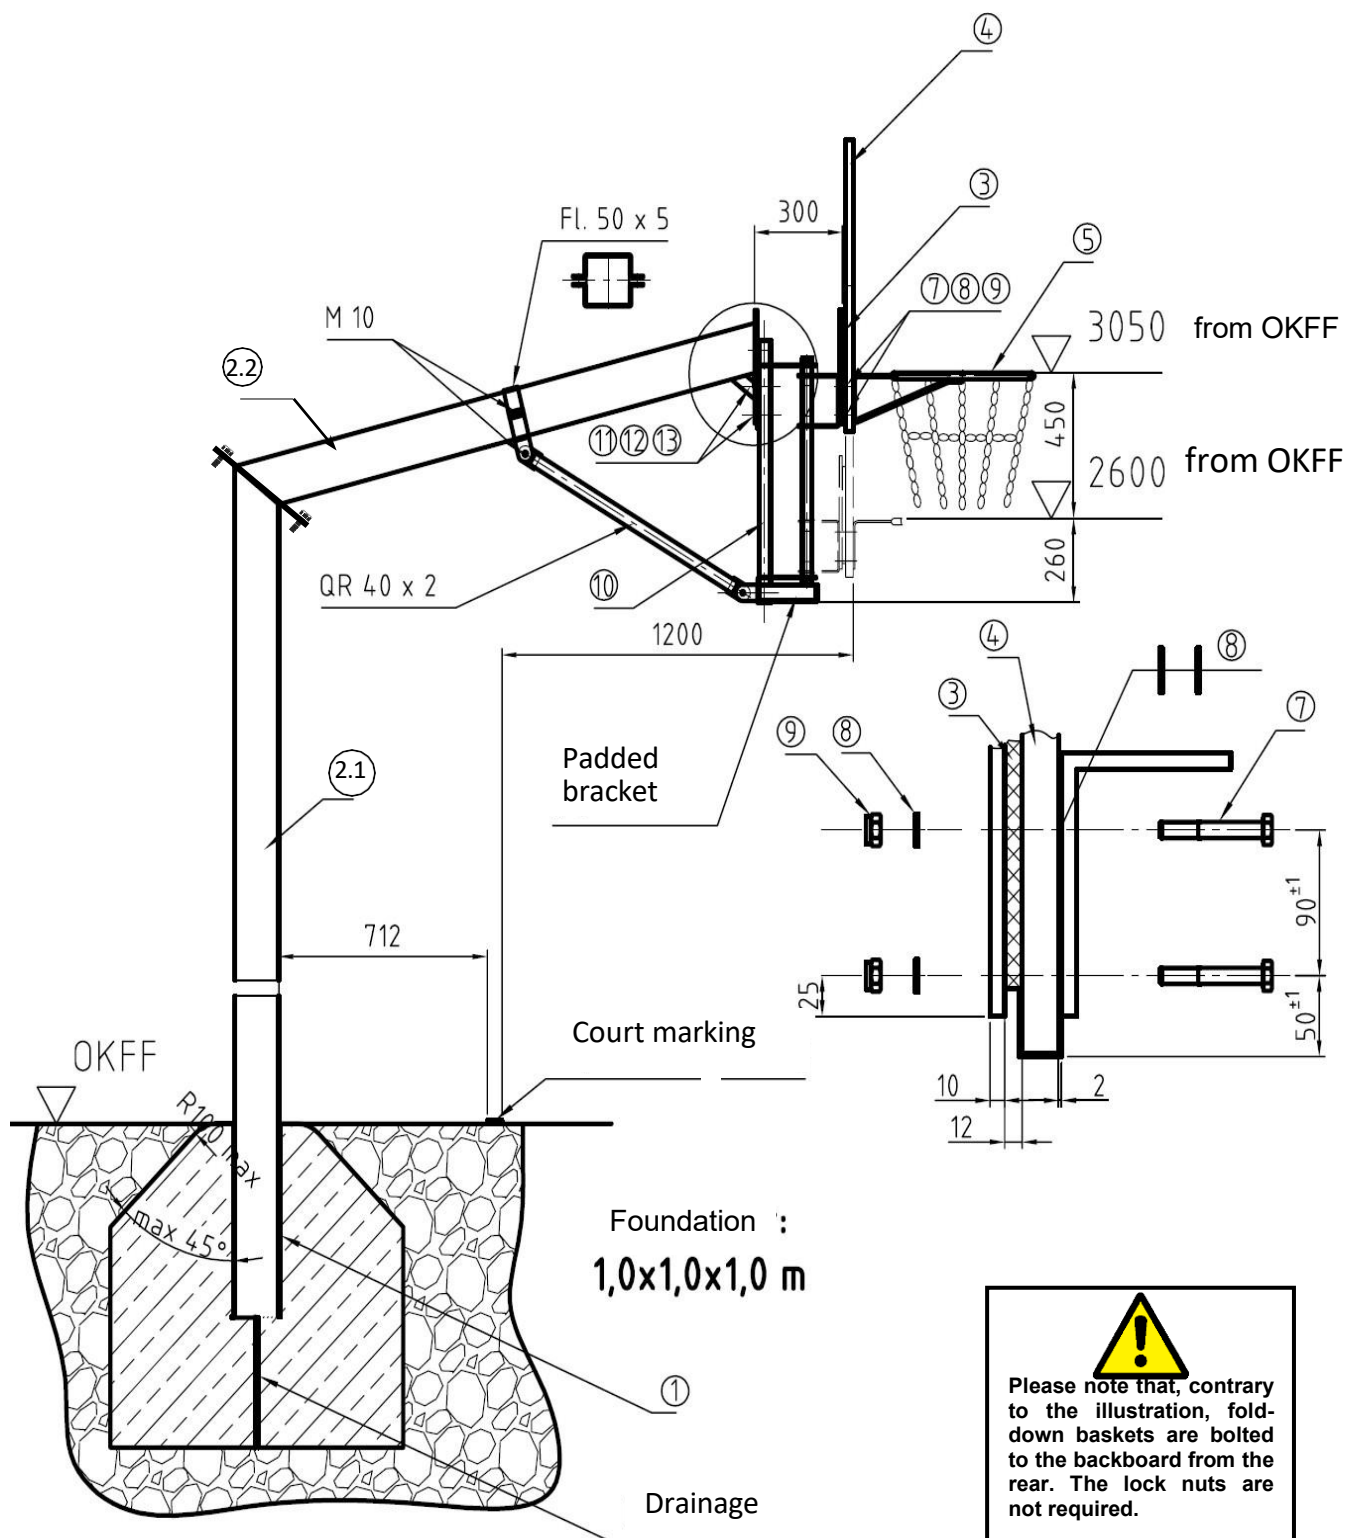

Figure 3: Fair Play 2.0 unit with height adjustment
The height adjustment feature (10) is supplied fully assembled and must be attached to the basketball post's steel bracket as shown in figure 3. There's a support strut to the rear of the basketball post.
We recommend fitting the systems with protective post padding (15) (product code 116 1726) for safety reasons. The washers (8) are not required for the assembly. See figure 3 for further details regarding installation.
The bracket on the bottom of the backboard comes with padding for safety reasons (see figures 3 and 4).